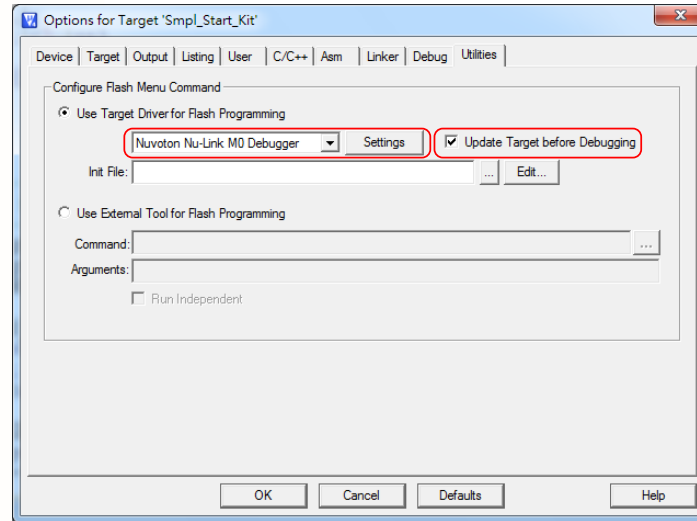

Figure 4-12 Keil RVMDK Programmer Selection
Step 6: Invoke **Project** → **Options for Target** → **Utilities**, select “Nuvoton Nu-Link M0 Debugger” when the **Use Target Driver for Flash Programming** option is enabled, and then select the **Update Target before Debugging** option, as shown in Figure 4-12.